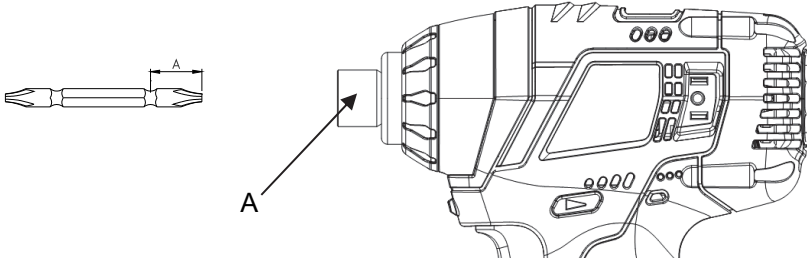

Fig. 3
1. Pull the guide sleeve forward. (see Fig. 3-A)